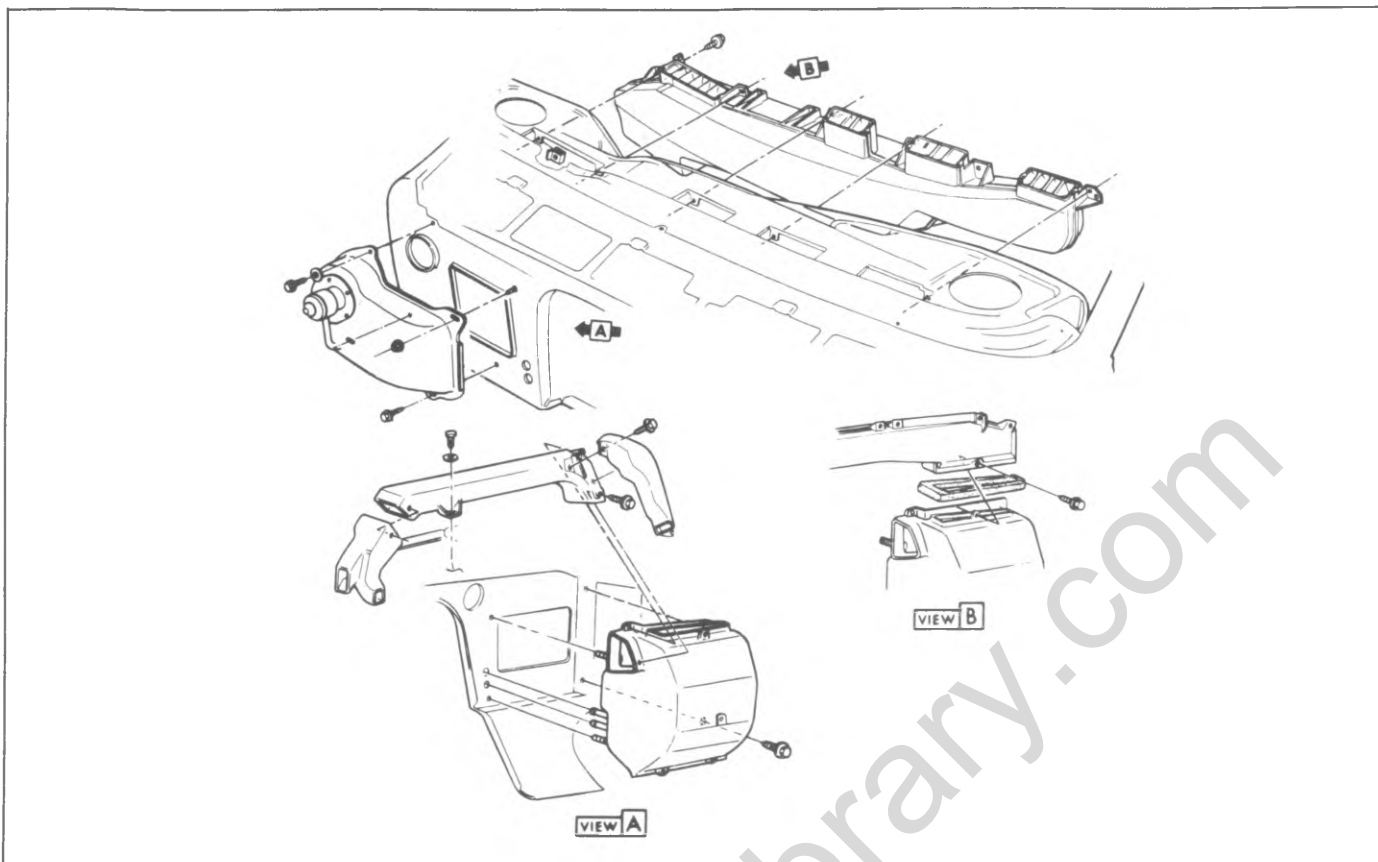

Fig. 1B-47--Heater Distributor Duct-G Model
11. Remove three (3) nuts and one (1) screw attaching module to dash panel. (Fig. 1B-10).
Replacement (Fig. 1B-51)